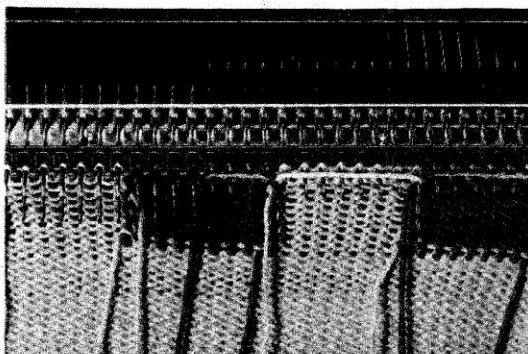

Fig.12
(2) Decreasing Slope
- (a) At the opposite end to the carriage, bring forward into position (E) from position (D) the number of needles not required for increase.
Lay the strands of yarn into the hooks of needles in position (D). (Fig.12) Push back both RCLs to "Position 2". Knit one row.